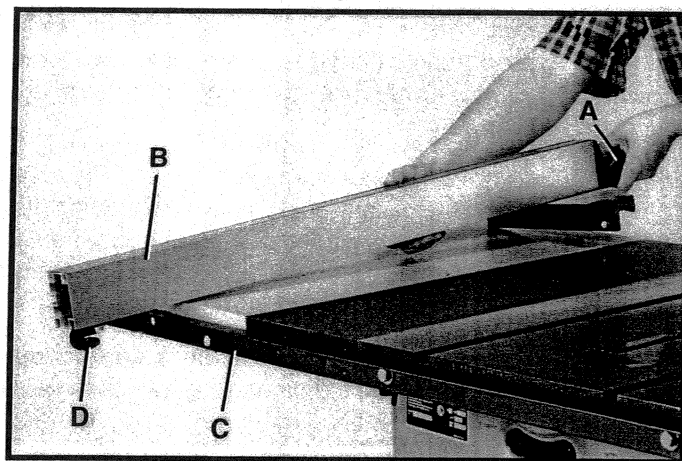

Fig. 27
1. With the fence handle (A) Fig. 27, in the raised position, place the rip fence (B) onto the rear guide rail (C), so the hooked end (D) fits over the top ledge of the rear guide rail.